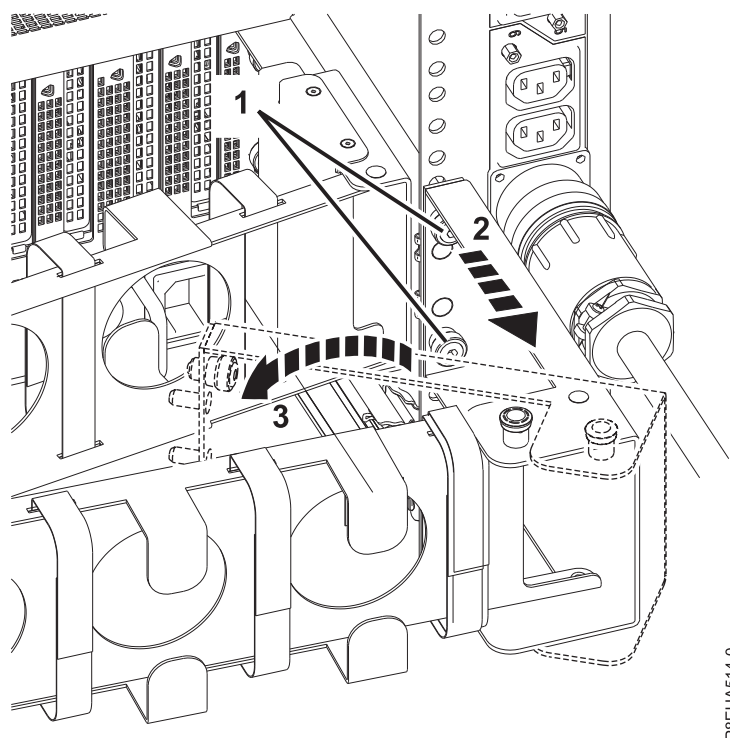

Figure 22. Steps to provide line cord clearance in a fully-populated system
- b. From the rear of the rack, loosen (but don't remove) the head screws (1). See Figure 22 on page 29.
- c. Pull the cable management arm bracket toward you (2). See Figure 22 on page 29.
- d. Pivot the cable management arm bracket to provide clearance (3). See Figure 22.